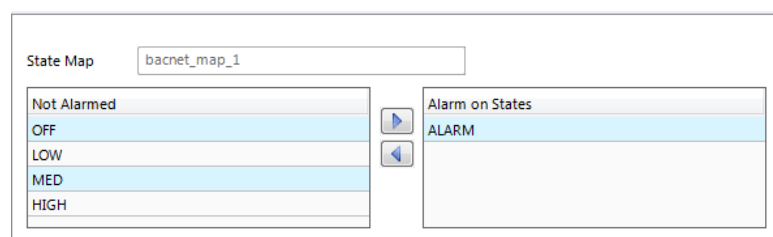

Figure 58: Alarm Condition for a Multi-State Data Point.
13. For a multi-state data point define the alarm values in the alarm condition as shown in Figure 58. Select the states in the list **Not Alarmed** and move them to **Alarm on States** by clicking the arrow buttons.